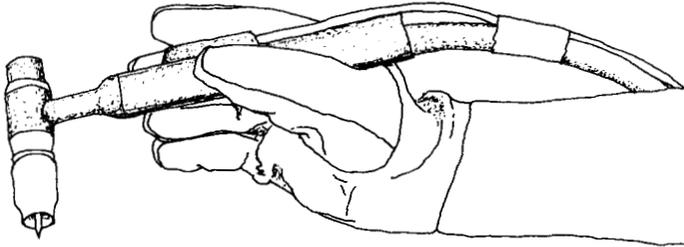
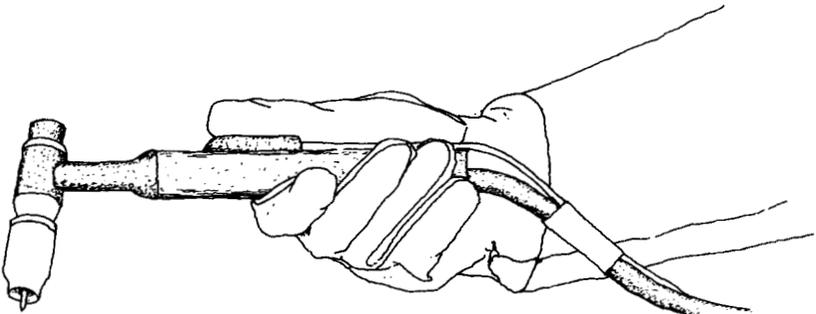

Fig. 8.1
Fig. 8.2
Generally welders will hold their TIG torch like a pen or like a hammer as shown below in Fig. 8.1 and 8.2, but as with golf clubs, whichever style suits you is the right one.
Figure 8.1 shows the torch held like a pen. This gives fine control of the torch head but restricted hand movement because your hand will always be rested. This style is better suited to bench work, especially on fine tools where close control is essential.
Figure 8.2 shows the torch held like a hammer. This is the type of hold for more general use because it gives free hand movement, although you will probably still rest your hand wherever possible.
**HF:** In Fig. 8.1, I would press my start button with my index finger and in Fig. 8.2, I would press my start button with my thumb.